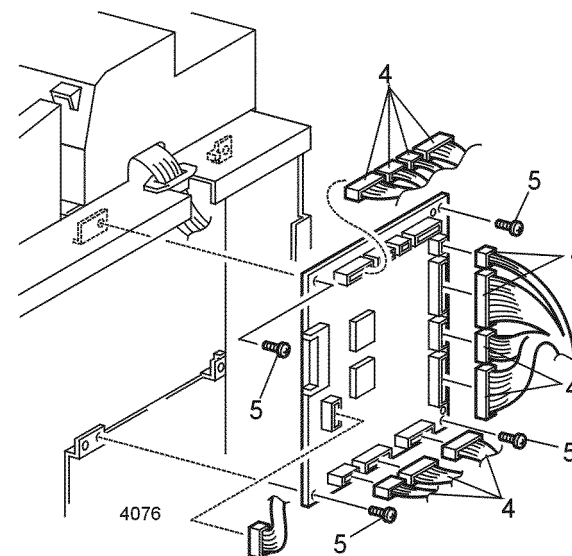

Figure 3 Print Engine Controller PWB
4. Disconnect P/J11, P/J12, P/J13, P/J14, P/J16, P/J17, P/J18, P/J19, P/J20, P/J21, and P/J22 from the Print Engine Controller PWB (Figure 3).
5. Remove the four screws that secure the Print Engine Controller PWB to the printer. Slide the Print Engine Controller PWB to the right and remove (Figure 3).